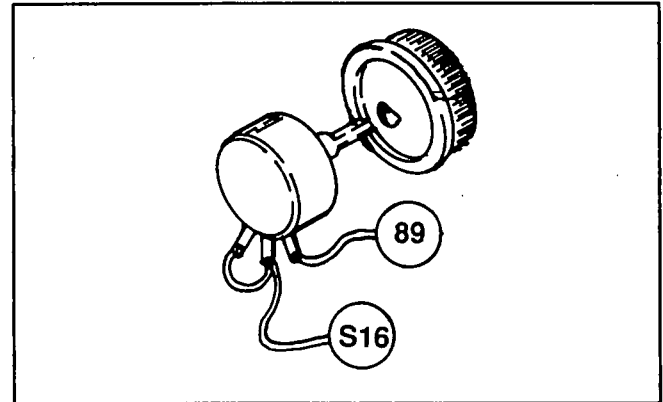

Figure 9. Voltage Adjust Potentiometer Test Points
1. See Figure 9. Connect an accurate ohmmeter across the potentiometer terminals to which Wires No. S16 and 89 attach.